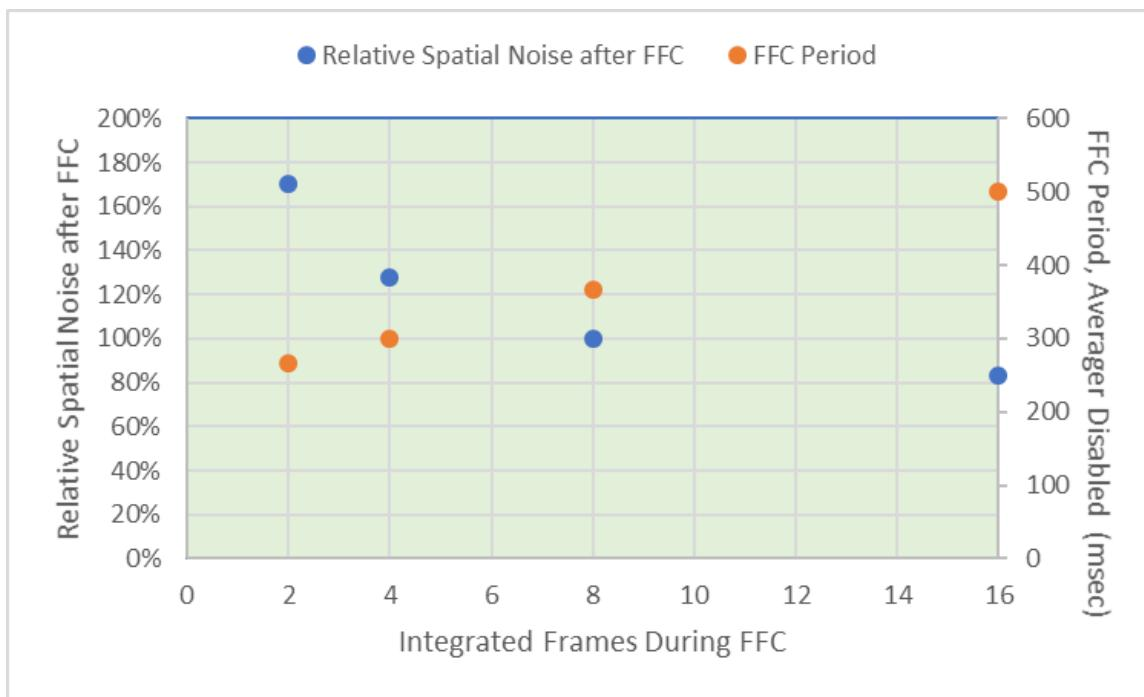

Figure 15: Relative Spatial Noise after FFC vs. Number of Integrated Frames (factory-default = 8)
- **FFC Integration Period**: During each FFC event, the camera automatically integrates n frames of sensor data to generate the resulting correction term. **FFC Integration Period** specifies the value of n , either 2, 4, 8 or 16. Utilizing fewer frames obviously decreases the FFC period (with diminishing returns due to overhead) whereas utilizing more frames provides greater reduction of spatial noise (also with diminishing returns due to 1/f noise). Figure 15 quantifies the benefit. The factory-default value is 8 frames. Note that with averager enabled (i.e., 30Hz output rather than 60Hz output), a value of 8 frames represents twice as much time as with averager disabled. That is, for the same value of **FFC Integration Period**, the time required to complete FFC is approximately twice as long with averager enabled.